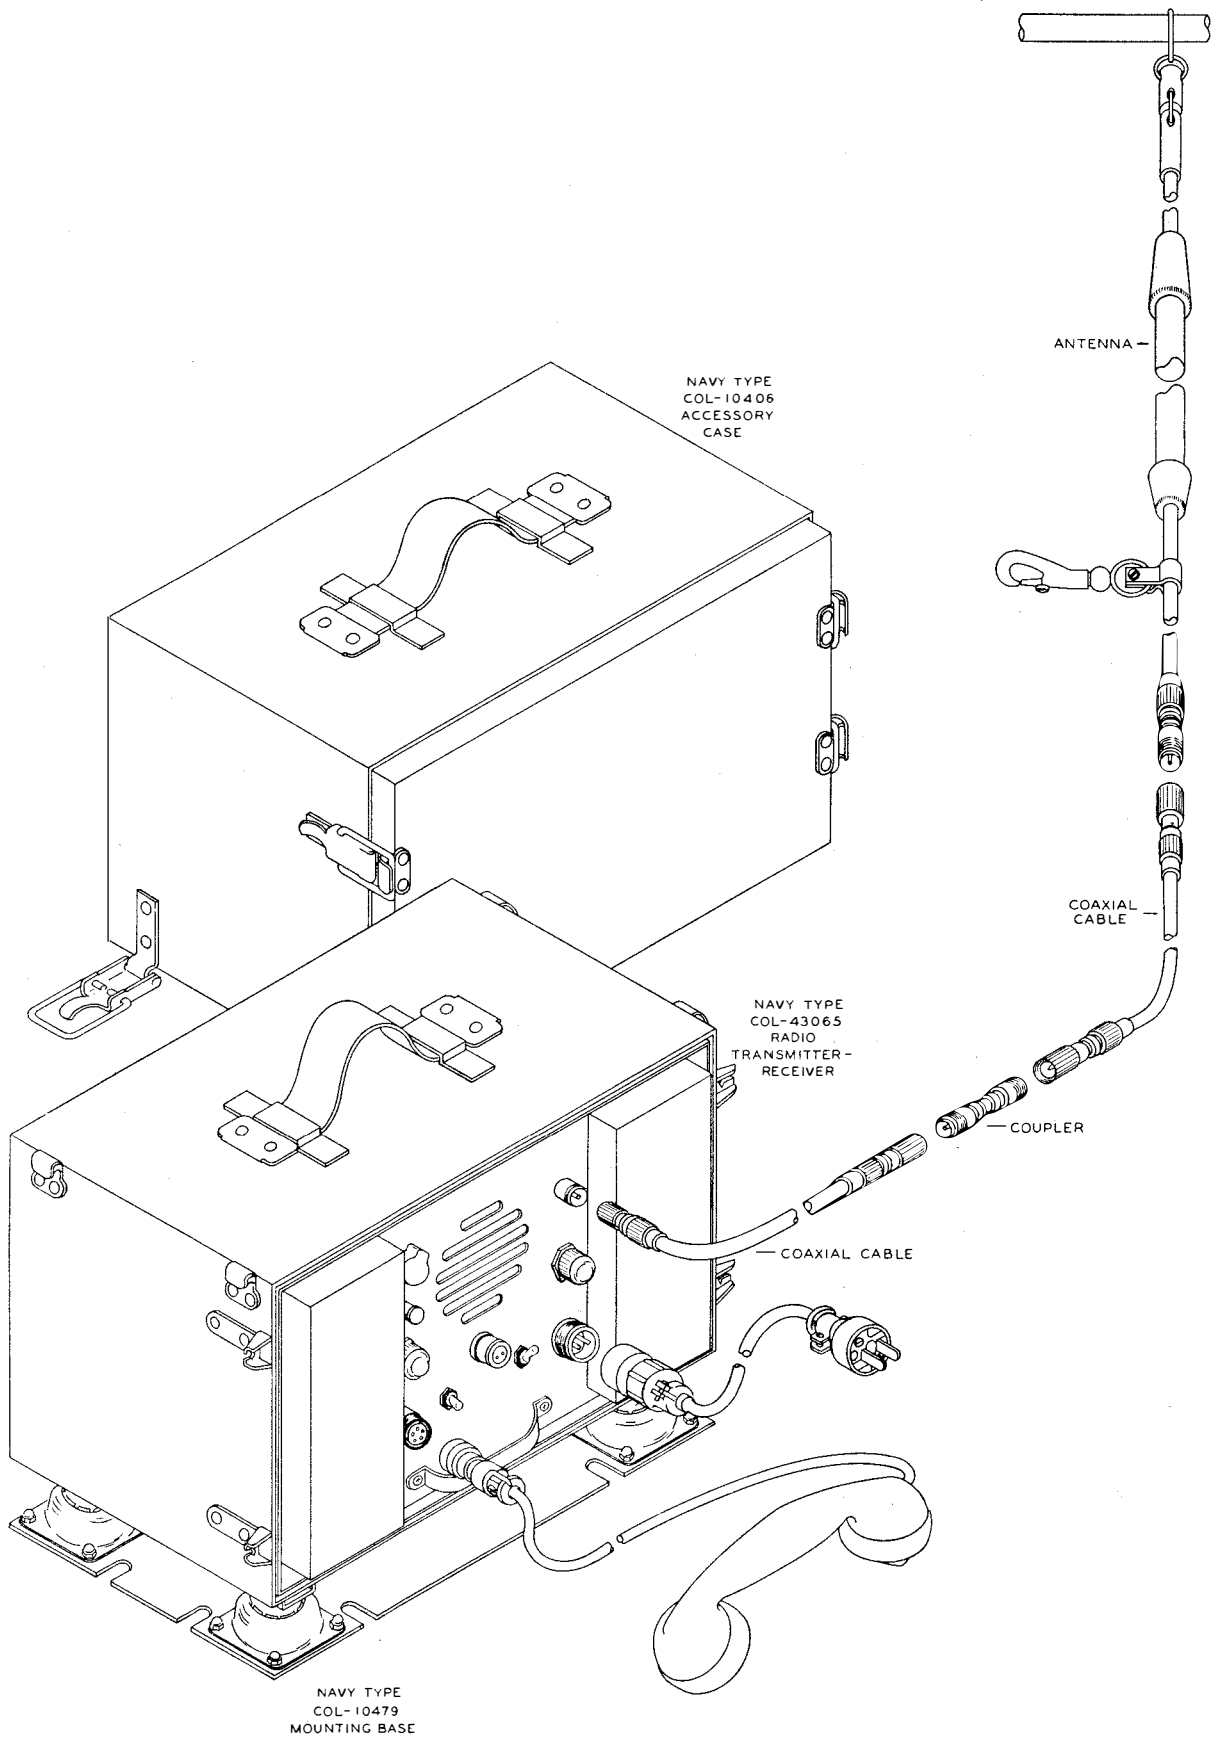

Figure 2-4—Navy Model MBF Installation Connections
(1) Set the unit on the selected deck site.
(2) Trace along the edge of each of the eight mounting slots, using a scribe or other pointed instrument.
(3) Remove the transmitter-receiver unit from the deck site.
(4) Using a center punch, mark the point which is equi-distant from the three sides of the mounting slot tracings. Repeat on each of the eight slot tracings.
(5) Drill each of the eight center punch marked points to admit the size mounting bolt that is to be used.
g. **CONNECTIONS.** (Refer to figure 2-4.)